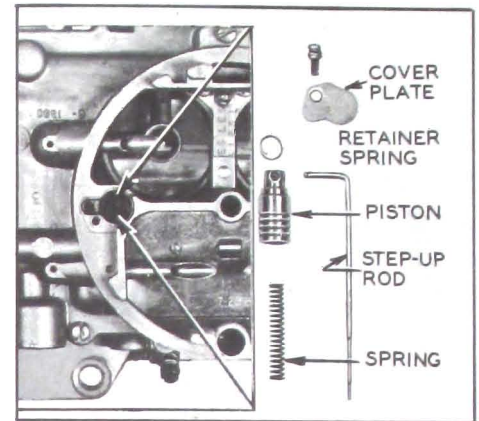

Figure 3-72—Step-Up Rod and Related Parts
3. Remove screws holding two step-up piston cover plates to air horn. Remove cover plates and remove each step-up piston, rod, and rod retainer spring as an assembly. Then remove two step-up piston springs. See Figure 3-72.